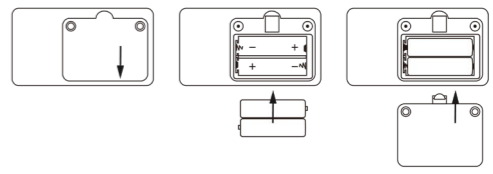

Figure 3. Batteries assembly
- A.** Refer to Figure 3. Use a screwdriver to unscrew the two screws from the battery compartment on the back of the product and open the back cover of the battery compartment.